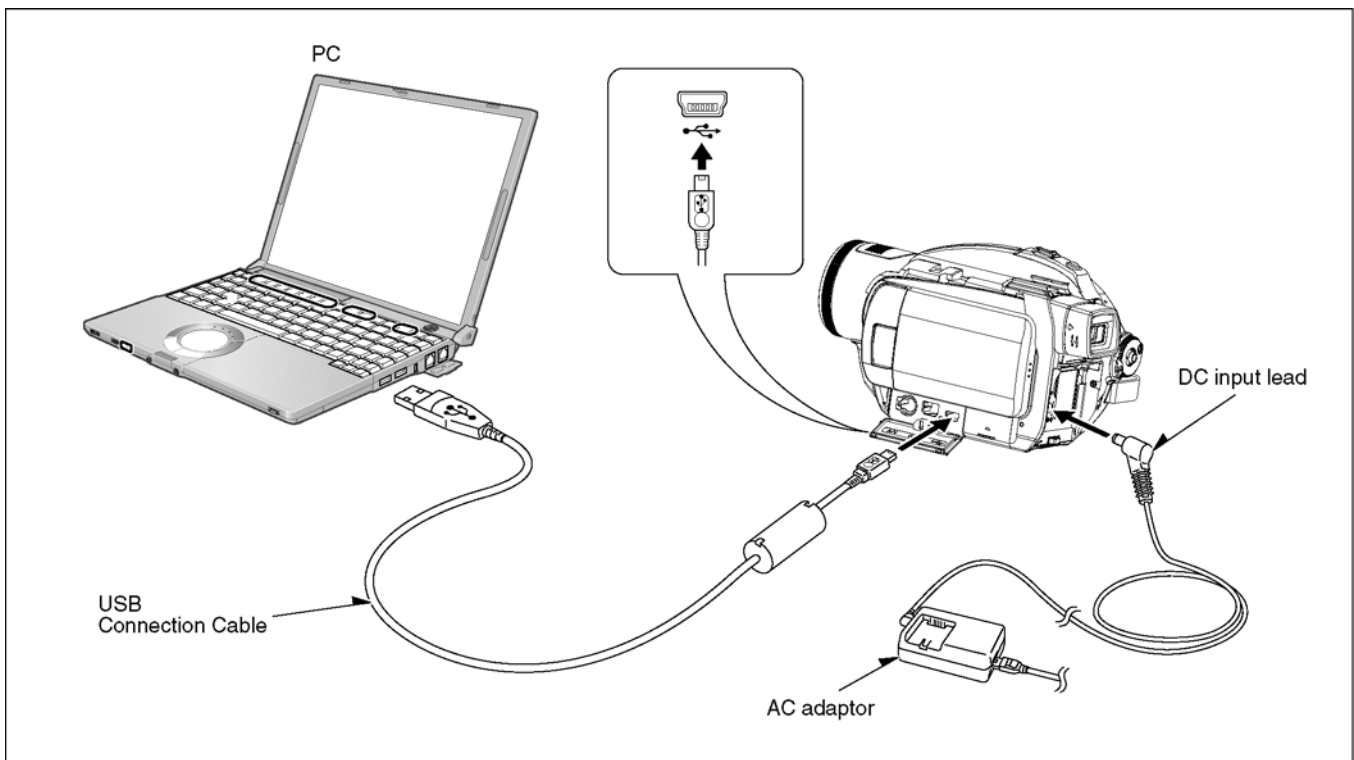

Fig. E1
b. Connect the PC and High Definition Video Camera as shown in Fig. E1 and E2.